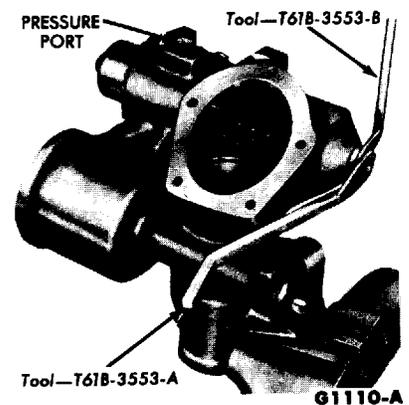

FIG. 25—Valve Spool Preliminary Centering
3. Install the valve spool centering wrench (Fig. 25) on the valve spool adjuster, and locate the valve spool so that the valley between the lands can be seen through the pressure port. Lock the adjuster with the lock nut, as shown in Fig. 25. **This is only a preliminary adjustment. Make final adjustment on the car** (Part 7-1, Section 3).